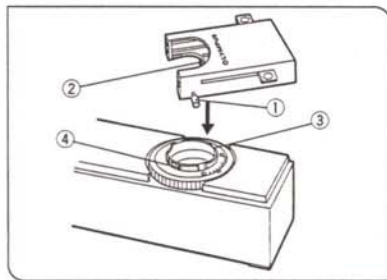

Fig. 17
**Mounting the Filter Cassette (Figs. 17,18)**